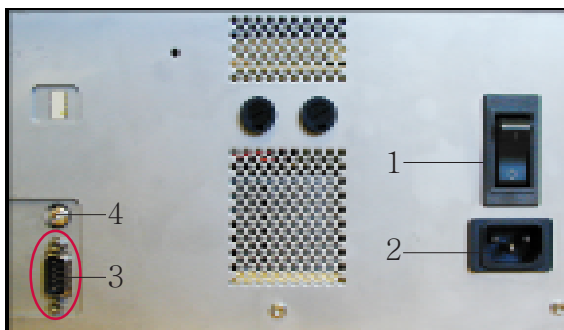

Fig. 4
- Switch on the instrument with the main switch at the rear. (see (1) in Fig. 4)
- Remove cover (5) on the left side of the instrument (Allan key size 2.5).